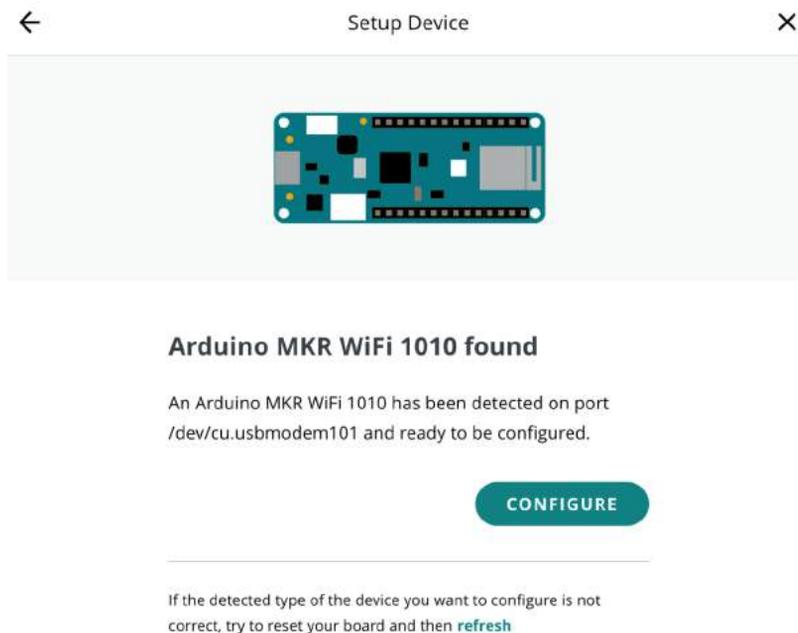

Figure 7.9 – Device found
- Select the right option from the popup for your project. For this example, click on **Arduino board** because in this chapter, we are using an MKR Wi-Fi 1010 board. Before adding the device, make sure **Arduino Create Agent** is running on your machine. *Figure 7.9* shows that Arduino IoT Cloud detected the MKR Wi-Fi 1010 device.